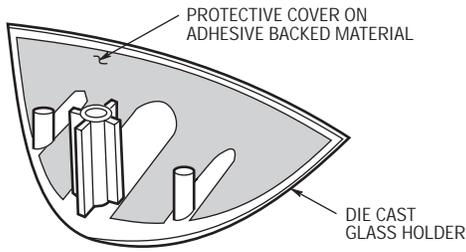

Figure 18
- 7. Remove the protective cover from the adhesive backed material on the glass holders (Figure 18).